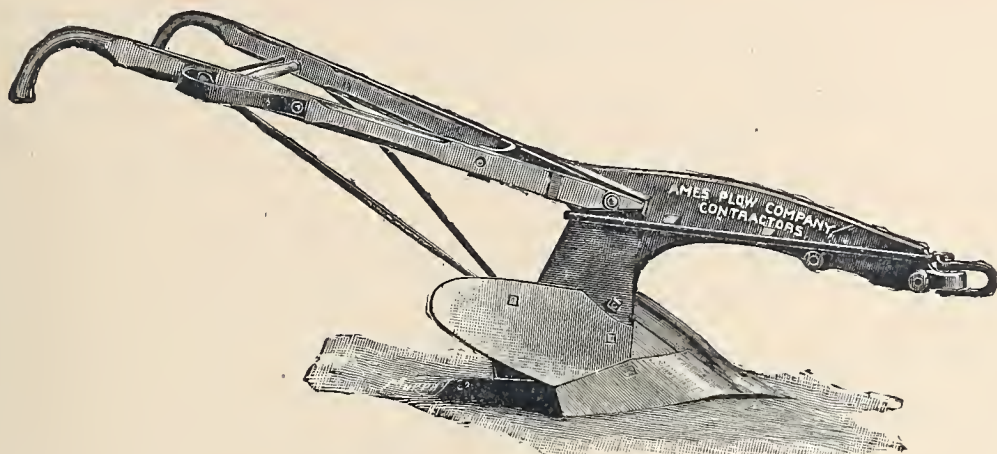

Fig. B 303.—Truss Beam Contractors' Plow.
*The Truss Beam Contractors' Plow*, shown at *Fig. B 303*, is the latest production in this line, for use by four to eight horses on all kinds of works, even to cemented gravel, street pavements, and other hard materials. The illustration shows